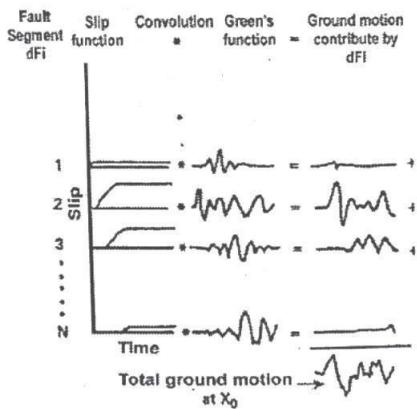

Fig. 5.14
6. The resulting ground motions from each segment are summed to get the total ground motion at X_0 as shown in Fig. 5.14.